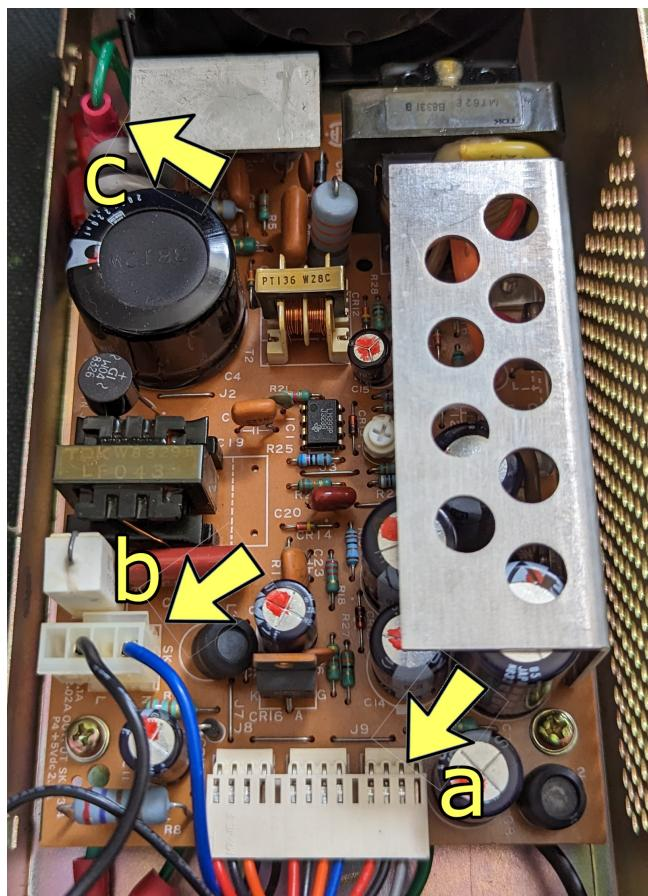

Figure 3.1: PSU connector positions.
3. Disconnect the motherboard (a), mains (b), and ground (c) connectors, as shown in Figure 3.1 below.